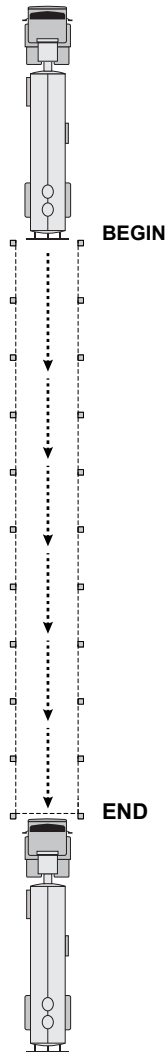

Figure 12.1 Straight Line Backing
These exercises are shown in Figures 12-1 through 12-3.
You will be asked to back your vehicle in a straight line between two (2) rows of cones without touching or crossing over the exercise boundaries. Once your vehicle has passed the last set of cones without striking boundary or cones, you can stop. (See Figure 12.1.)